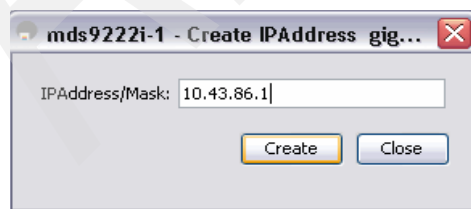

Figure 7-33 Device Manager Create IP Address panel
4. Enter the IP address in the fields provided (Figure 7-33). The format is IP Address/Netmask.